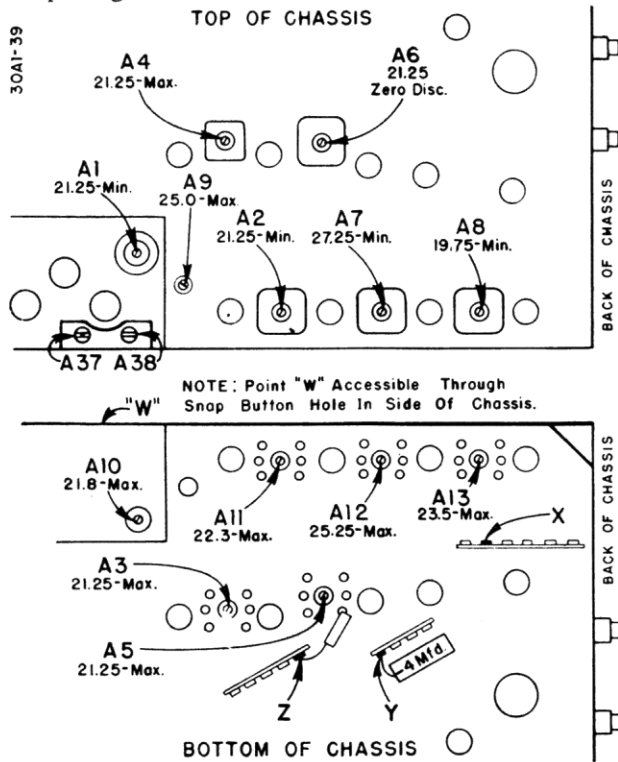

Figure 3-1. Trimmer Locations.
- Refer to figure 3-1 and 3-2 for alignment adjustment and test point locations.
2. Connect oscilloscope between point "Z" and chassis ground (see figure 3-1). Keep leads away from receiver.